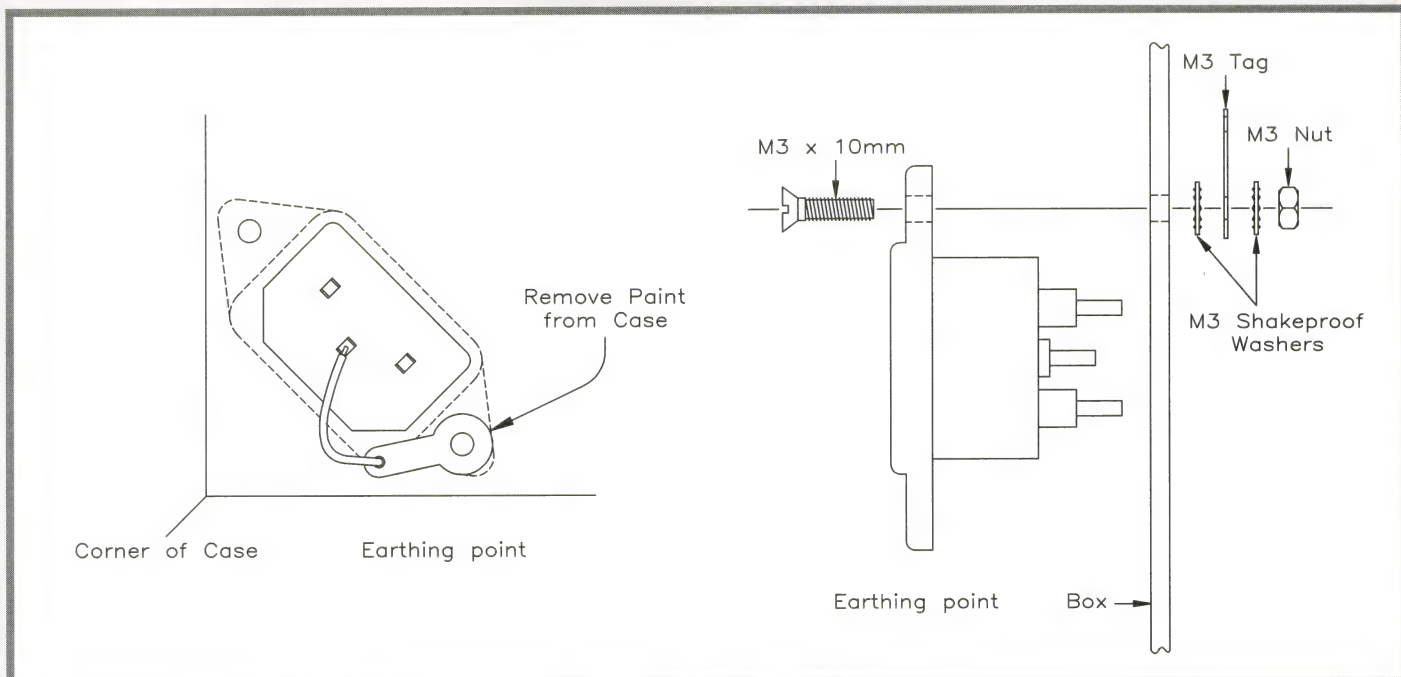

Figure 6. Mains connector installation details.
4. Solder a suitably-coloured wire from the earth connector of the mains connector to the M3 solder tag. Remove the paint from around the lower mains connector mounting hole, as shown in Figure 6. Fit the IEC mains connector to the rear panel, using the counter-sunk 8mm M3 screws, so that its earth pin is closest to bottom corner. Don't forget to include the earthed solder tag, which should be fastened against the metal bared earlier.